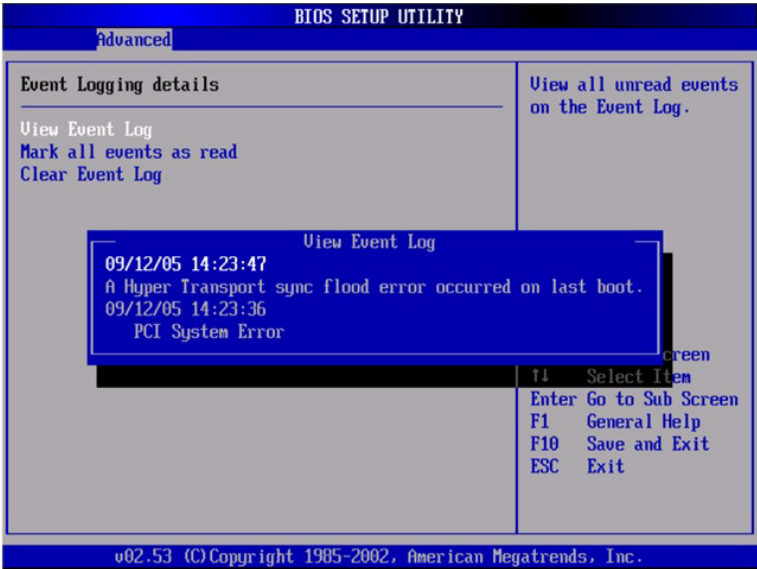

FIGURE E-6 Sample DMI Log Screen, System Error Listed
- FIGURE E-6 shows an example DMI log screen from the BIOS Setup Page with a system error.